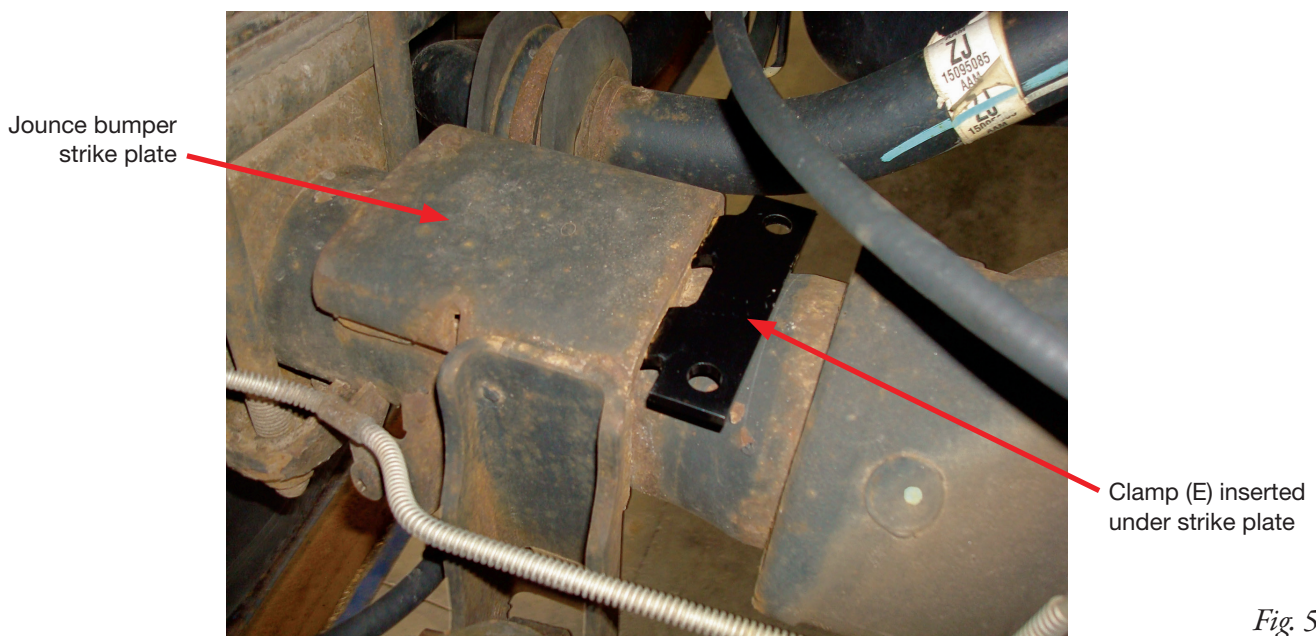

Fig. 5
1. Set the clamp (E) into position under the jounce bumper strike plate that is welded to the axle (Fig. 5).